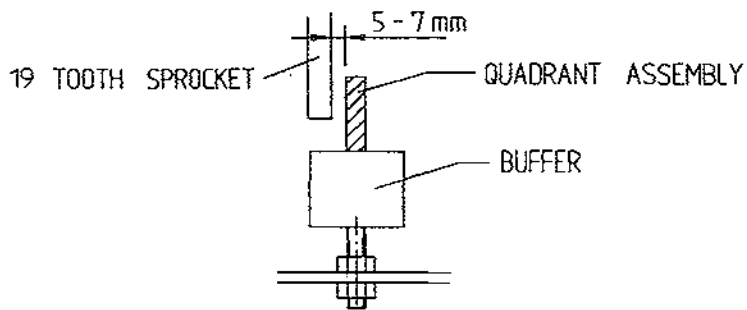

Fig 13
- (ii) That the clearance between the sprocket and the quadrant is 5 -7 mm (Fig 13.) The quadrant assembly can be moved in or out to adjust.